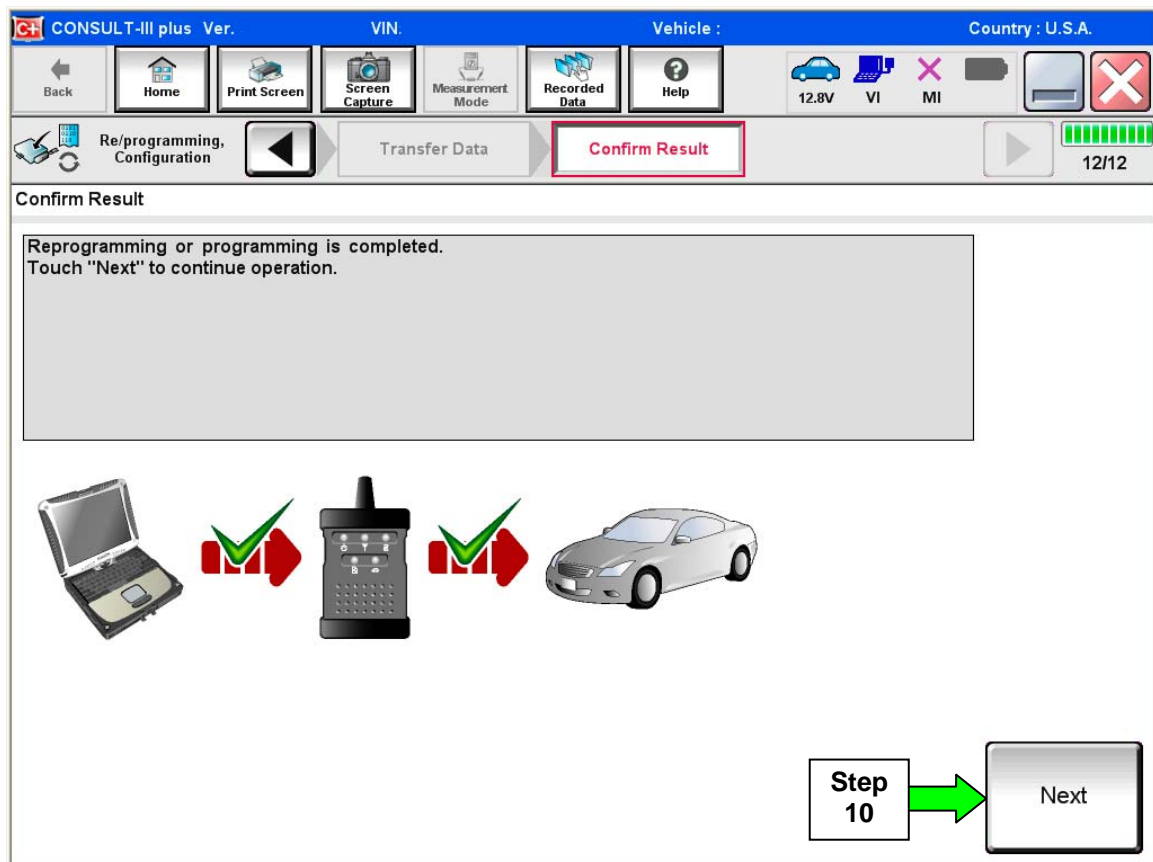

Figure 16
8. When the screen in Figure 16 displays, reprogramming is complete.
NOTE: If the screen in Figure 16 does not display (reprogramming does not complete), refer to the information on the next page.